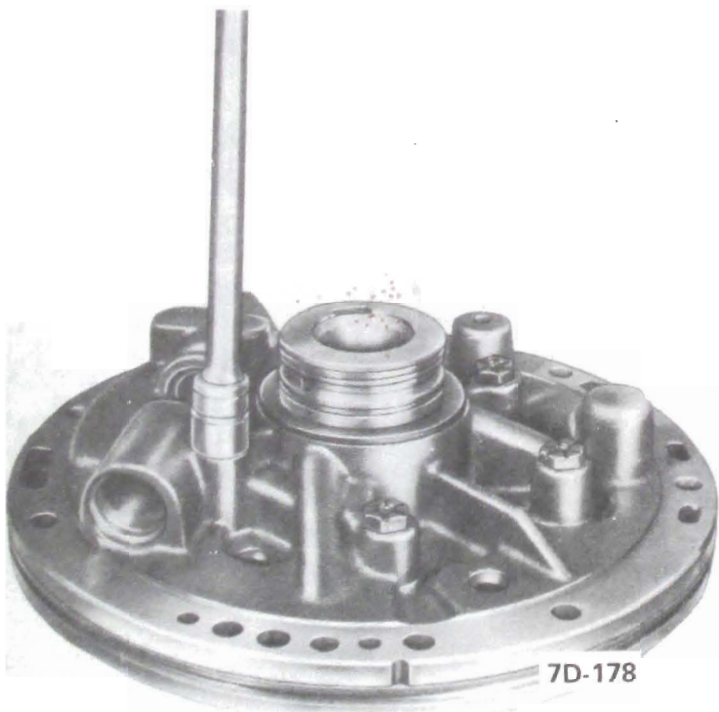

Figure 7D-178
7. Remove pump cover from body. See Figure 7D-179.